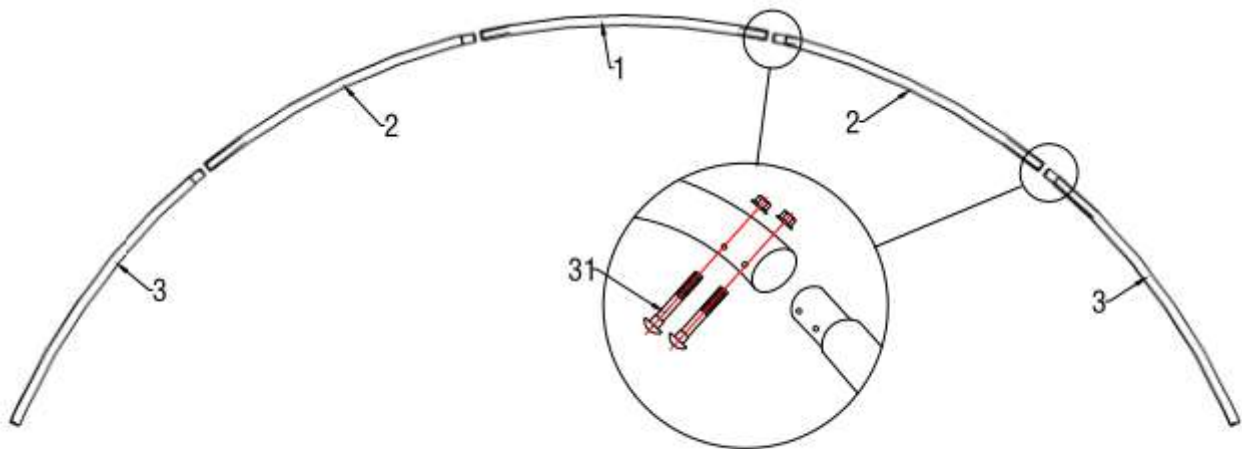

Figure 3
1. As Figure 3 shown to find the first group of front door arch frame ,one piece of Roof top tube(No. 1), two pieces of sidewall bent tube(No.2),two pieces of shoulder bent tube(No.3)and two pieces of bottom bent tube(No.4). Then connect them from by using Part (No.31) Bolt M10x90mm. It is the first group arch frame.